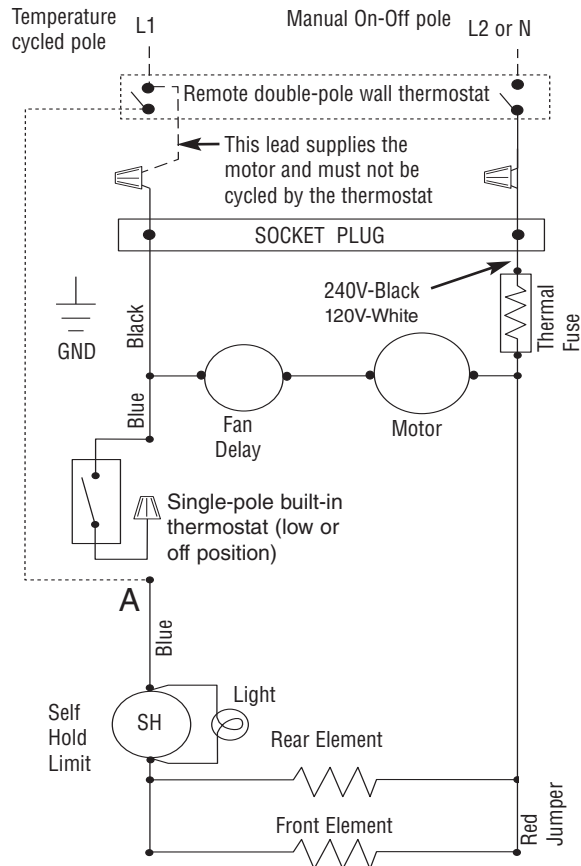

Figure 3 - Wiring For Remote Thermostat
- b. Disconnect blue lead from built-in thermostat lead at point A on wiring diagram, Figure 3. Cap off thermostat lead with wirenut. Connect blue lead to field supply lead from load side of thermostat. (See Figure 3). Make remaining field wiring connections per Figure 3.